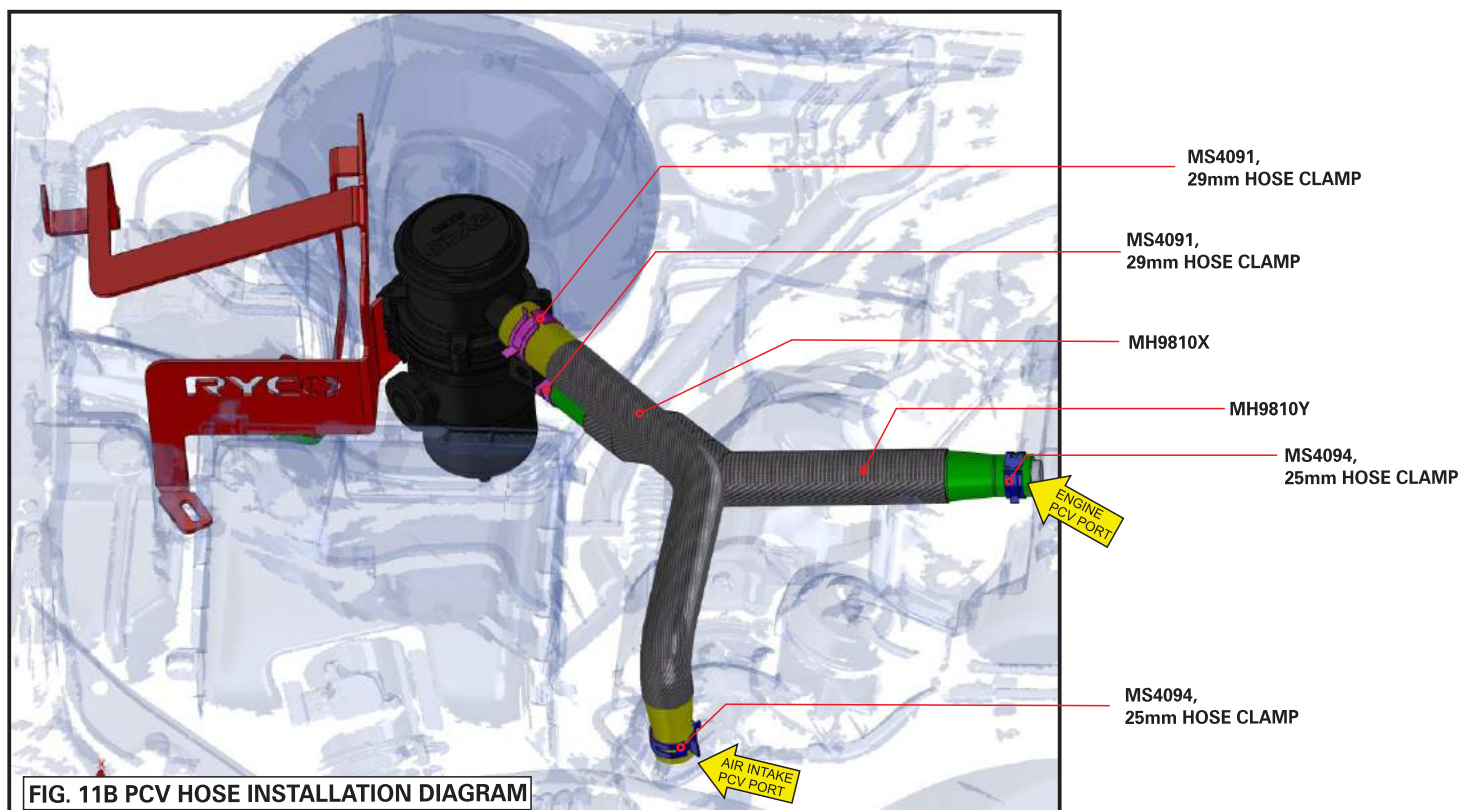

FIG. 11B PCV HOSE INSTALLATION DIAGRAM
11. Proceed to rotate the RCC351 to match the alignment shown in FIG. 11B, ensuring clearance to the Engine Airbox.